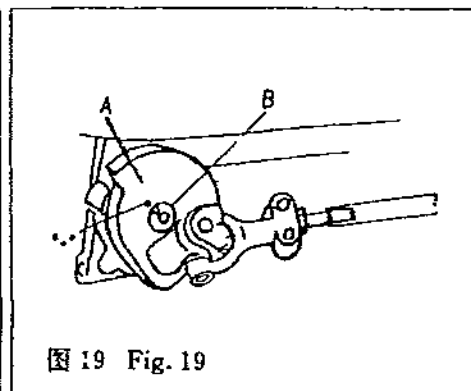

图 19 Fig. 19
(1) 钩线叉的基本位置 钩线叉的基本位置由钩线叉曲柄“A”与主轴“B”的位置决定。安装时应将曲柄上的圆点“·”标记对准主轴上的“V”形槽中心时，将钩线叉曲柄固定(图 19)。
Basic position of thread hook is decided by positions of crank "A" of thread hook and main shaft "B". When the mark "." on the crank coincides with the center of "V" groove on the main shaft, fix the crank of thread hook in place (Fig. 19).
③调整钩线叉曲柄上的圆点“·”标记与主轴“V”形槽的相对位置(图 19)对钩线叉的左右位置也有影响。所以调整钩线叉的左右位置，必须根据具体情况，在上述三步骤中仔细选择和反复进行调整，才能达到最佳状态。
③ Adjustment of location of the mark "·" on the crank of thread hook in relation to "V" groove on the main shaft (Fig. 19) impairs the positioning of the location of the thread hook. Thus micro-adjustment of the position for thread hook shall be made accordingly. An ideal condition
①运动关系调整 通过调整钩线叉曲柄上圆点“·”标记相对于主轴“V”形槽位置(图 19)。
① Adjustment of timing relation by regulating the position of the mark “·” on the crank of thread hook and “V” groove on the main shaft (Fig. 19).